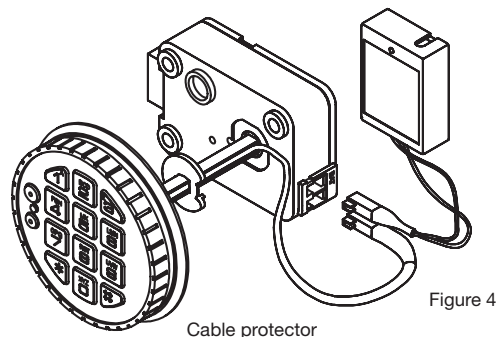

Figure 4
8. Then turn the key pad clockwise until the key pad is vertical (Figure 4).